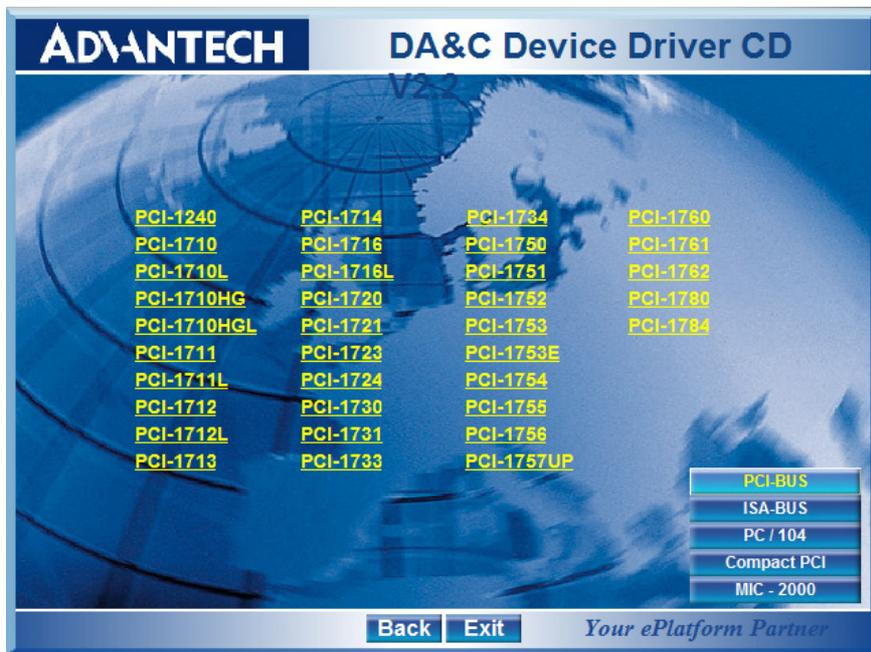

Figure 12 Card Choice Menu
12. Select the 'PCI Series'. The card choice window will open (Figure 12).